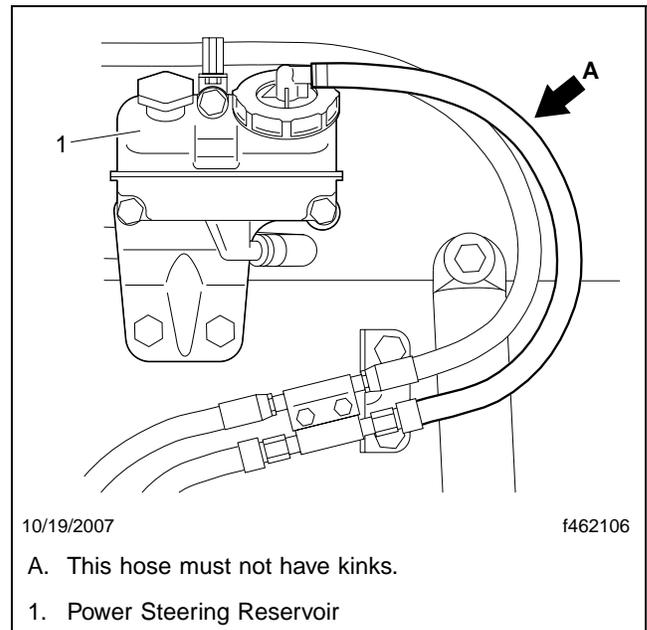

Fig. 5, Hose Routing From Power Steering Reservoir
31. Connect the return hose between the reservoir and formed line. The hose should have no necking or kinks that may impede the return fluid flow. See **Fig. 5**.